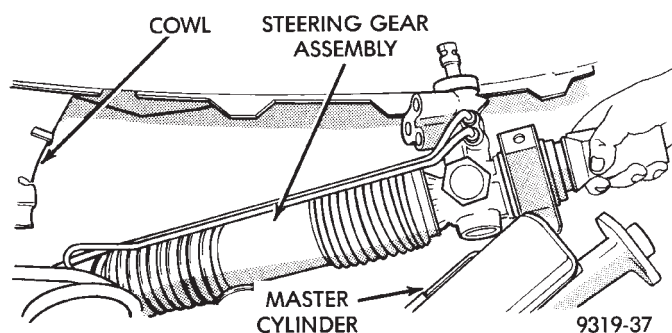

Fig. 13 Steering Gear Assembly Removal And Installation
(20) Slide steering gear forward in vehicle to disengage steering coupler from steering gear shaft. **After steering gear is disengaged from steering coupler, do not rotate steering gear shaft.**
(21) Remove steering gear assembly from vehicle through area in cowl that the windshield wiper module was previously removed from (Fig. 13).
(1) Install steering gear assembly back in vehicle through windshield wiper module opening in cowl (Fig. 13).
(2) If original steering gear assembly is being installed back in vehicle. Align paint mark on steering coupler with paint mark on steering gear shaft and install steering gear shaft into steering coupler. **If a replacement steering gear assembly is being installed in vehicle. Steering gear shaft and steering coupler must be aligned using the following procedure. Rotate steering gear shaft back from the full left turn position until master spline on steering gear shaft is aligned with master spline on steering coupler. Then install steering gear shaft into steering coupler.**